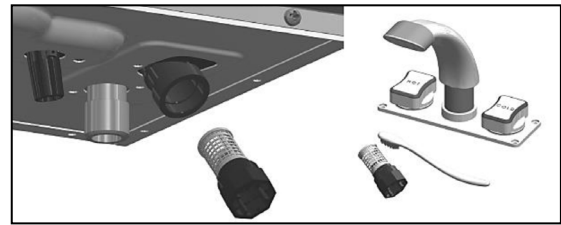

Figure 58 - Draining the Water Heater; Cleaning the Filter
5. Remove the cold water inlet filter. Then clean it with a toothbrush and clean running water. See Figure 58.